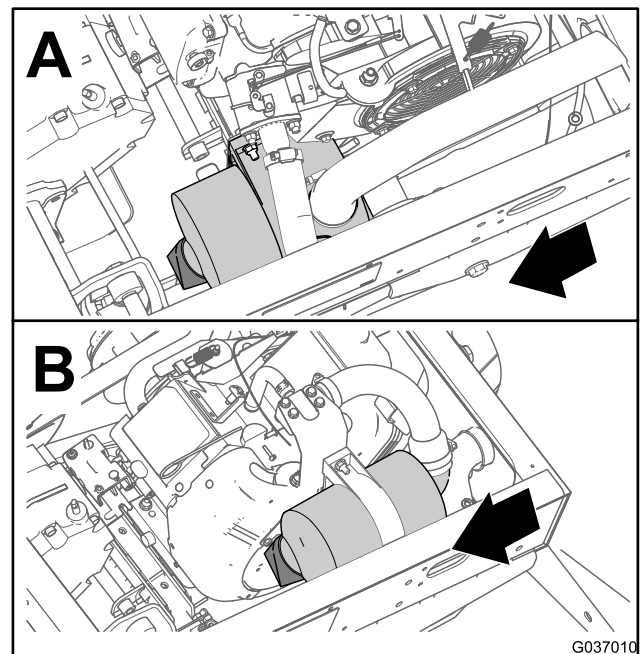
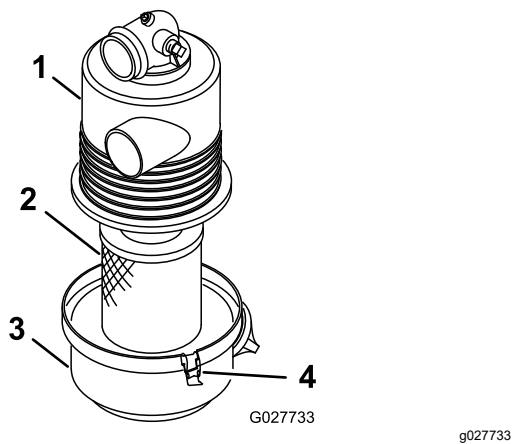

Figure 30
Figure 31
2. Check the air-cleaner body for damage which could possibly cause an air leak (Figure 30 and Figure 31).
3. Insert the air-filter element into air-filter housing (Figure 31).
4. Align the air-filter cover with the air-filter housing (Figure 31).
5. Secure the cover to the housing with the latches (Figure 31).
3. Release the latches securing the air-filter cover to the air-filter housing (Figure 31).
4. Separate the air-filter cover from the air-filter housing, and clean the inside of the cover (Figure 31).